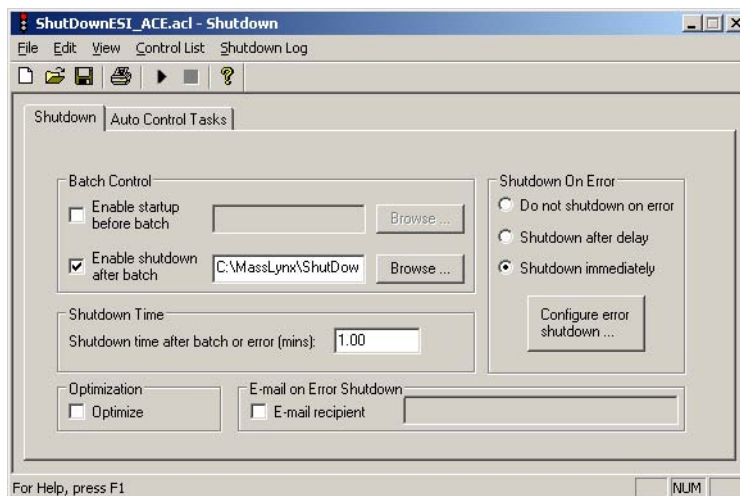

Figure 4-22 Shutdown Editor
1. Select Edit Shutdown or Startup from the MassLynx Instrument Shortcut bar to open the Shutdown Editor (Figure 4-22).